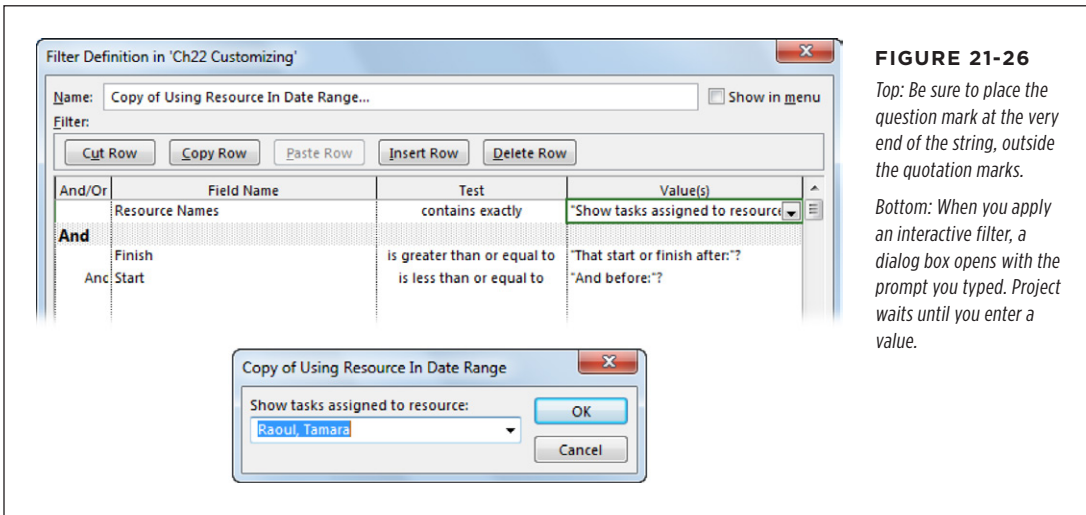

FIGURE 21-26
2. In the Value(s) cell, type the prompt in quotation marks followed by a question mark, as shown in Figure 21-26, top.
When you run the filter, Project displays your prompt (as shown in Figure 21-26, bottom) before running through the filter’s tests.